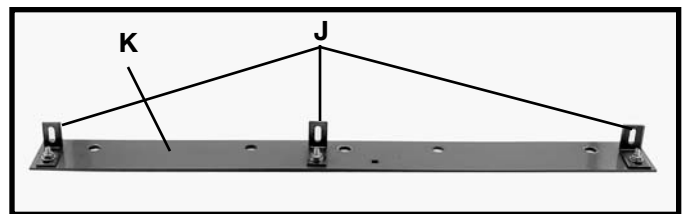

Fig. 51
7. Assemble the three brackets (J) to the table adapter plate (K) using the three 1/4-20 x 3/4" carriage bolts, nuts and washers (Fig. 51). **NOTE:** The long leg of the brackets (J) should be against the adapter plate (K). Do not completely tighten brackets (J) to adapter plate (K) at this time.